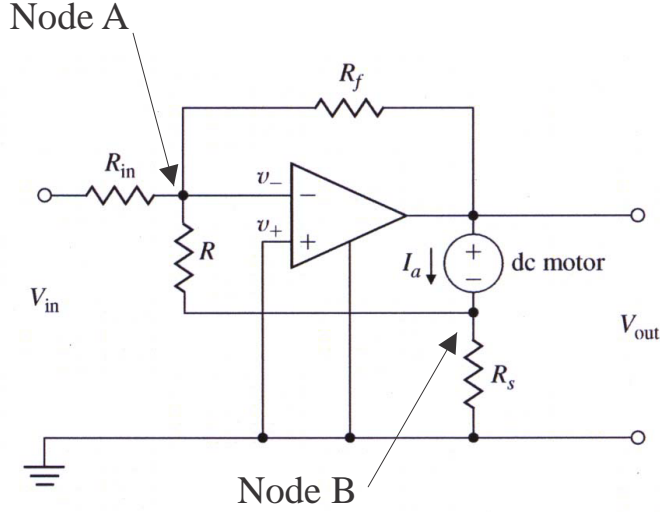

Fig. 2.52 Op Amp circuit for Problem 2.15 with nodes marked.
15. A common connection for a motor power amplifier is shown in Fig. 2.52. The idea is to have the motor current follow the input voltage and the connection is called a current amplifier. Assume that the sense resistor, R_s is very small compared with the feedback resistor, R and find the transfer function from V_{in} to I_a . Also show the transfer function when $R_f = \infty$.